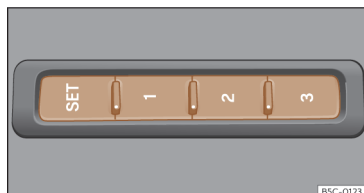

Fig. 106 On the outer side of the driver's seat: memory buttons.
- Press **SET** for longer than 1 second »» **Fig. 106**.